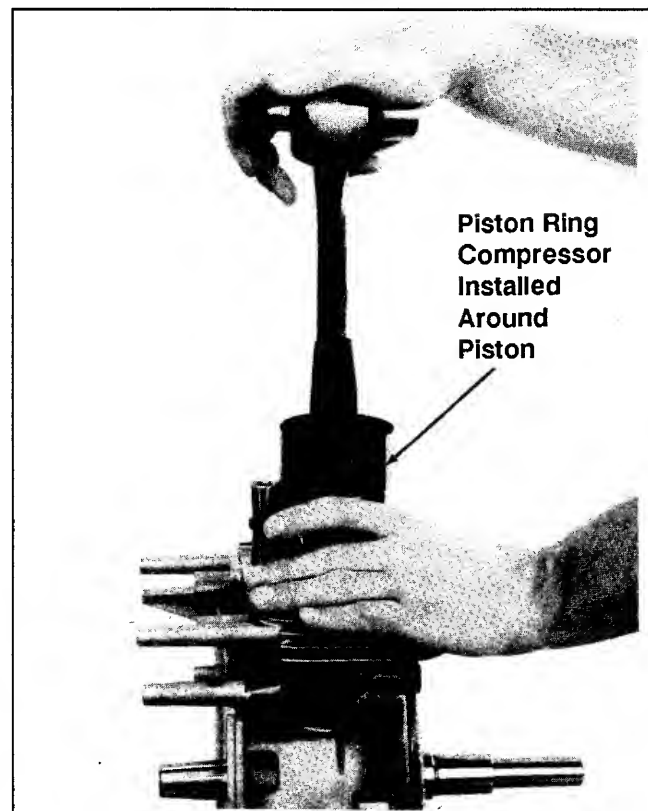

Figure 11-4. Installing Piston And Connecting Rod.
2. Lubricate the cylinder bore, piston and rings with engine oil. Compress the piston rings using a piston ring compressor. See Figure 11-4.